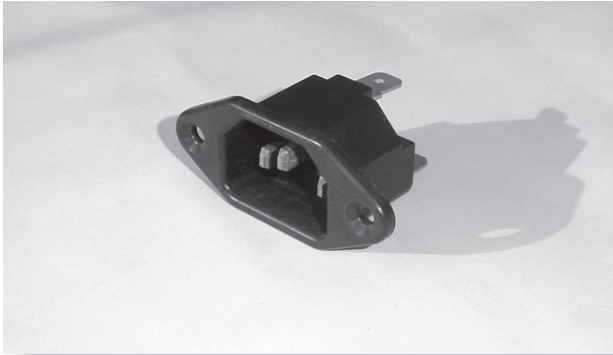

FIGURE 6.21 Connector featuring spade lugs.
Other power connectors — usually mains connectors, although the connection method is popular in car electrical circuits too — feature a spade male lug, as shown in Figure 6.21. A mating spade female connector must be crimped to the connecting lead, using a crimping tool. The result is a solid and secure connection.
- **AN alternative to a cable entry clamp is a good quality plug and socket connector** — such as that shown in Figure 6.21.